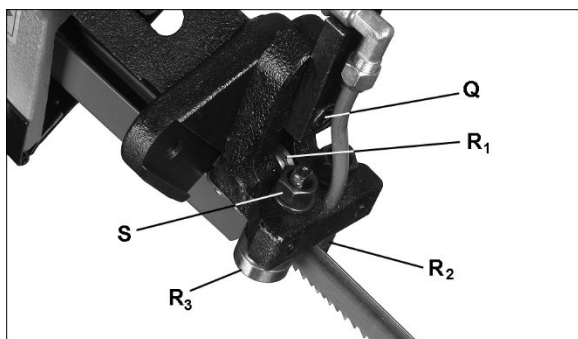

Figure 8-9: blade guide setting
2. Loosen bolt (Q, Figure 8-9) and adjust assembly so that rear bearing (R₁) is approximately 0.002 to 0.003 inches from back of blade. Also, inside bearing (R₂) should very lightly contact blade. Tighten bolt (Q).
3. Inside bearing (R₂) is fixed. Outside bearing (R₃) rotates on an eccentric shaft. Rotate nut (S) with 14mm wrench to adjust eccentric bearing to a clearance of 0.001 inches from blade.
- If there is a gap, loosen bolt (Q, Figure 8-9) on each blade guide assembly and rotate blade guide assembly until gap is eliminated between square and ruler.
- Retighten bolts (Q, Figure 8-9).